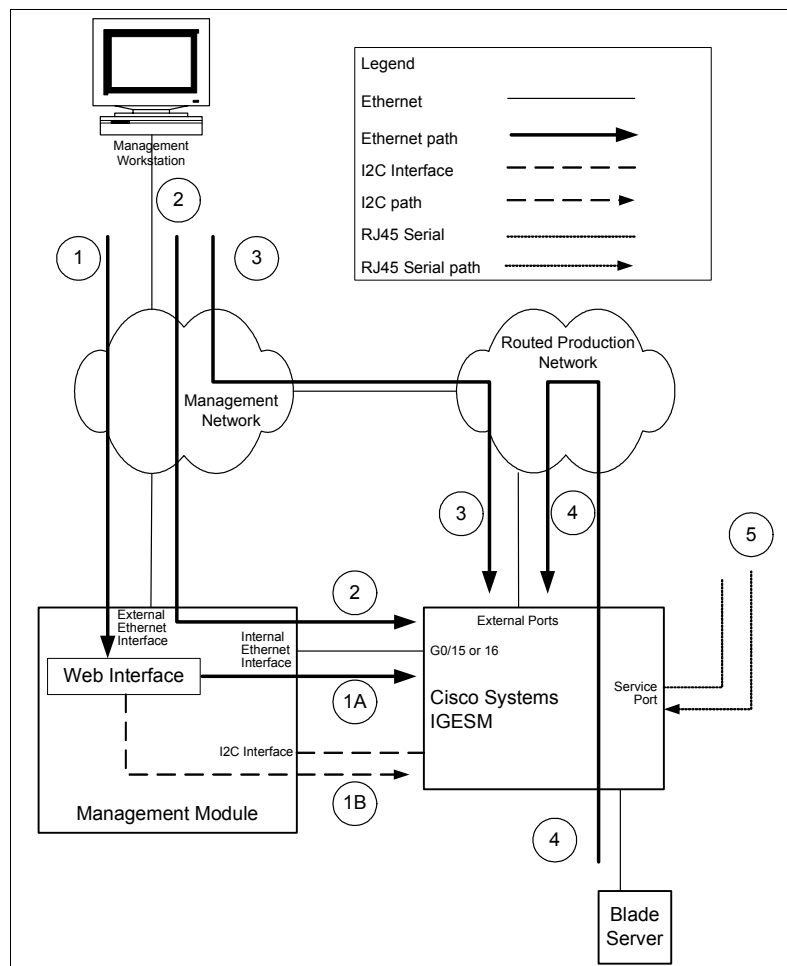

Figure 5-40 Management path flow
- ▶ Via an internal network connection to and through the Management Module, which uses a network connection but does not use the data path network connection to carry the traffic. This is the default network-based management path for the IGESM and represents paths 1 and 2 in Figure 5-40.
- ▶ Via an external uplink network connection (in-band), as represented by path 3 and 4 in Figure 5-40.
With that said, the first and perhaps simplest approach for managing the IGESM is to use the Management Module's uplink port to manage the IGESM (paths 1 and 2 in Figure 5-40 on page 57). This connectivity is demonstrated in scenarios 1, 2, and 7 in this section and is also discussed in more detail below. Because it is simpler to deploy, *using the Management Module's uplink to manage the IGESM is preferred* over managing the IGESM via its own uplinks, with both scenarios 1 and 2 being recommended equally based on the customer's requirements.
As already noted, the second approach is to manage the IGESM via its own external uplink connections, ports G0/17 - 20 (paths 3 and 4 in Figure 5-40 on page 57). This connectivity is demonstrated in scenarios 3 through 6, and discussed in more detail below.